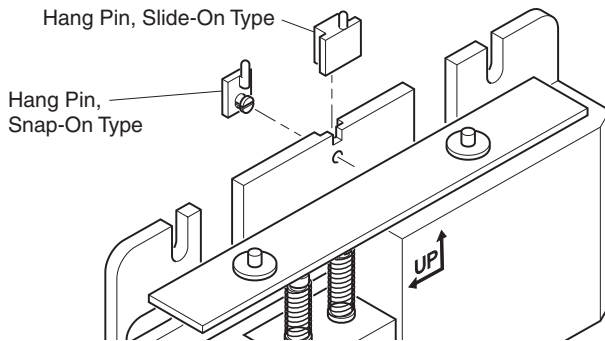

Figure 3 - Pin for Hanging Cover
- **For hang pin and hole covers:** Attach hang pin to base prior to mounting base on wall. Line up hole in cover with pin and hang (see Figure 3).